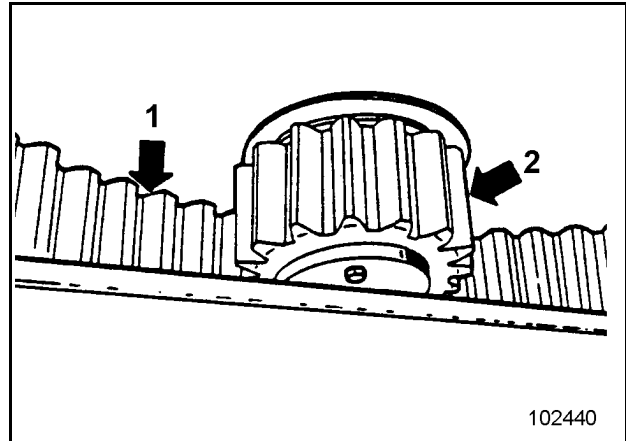
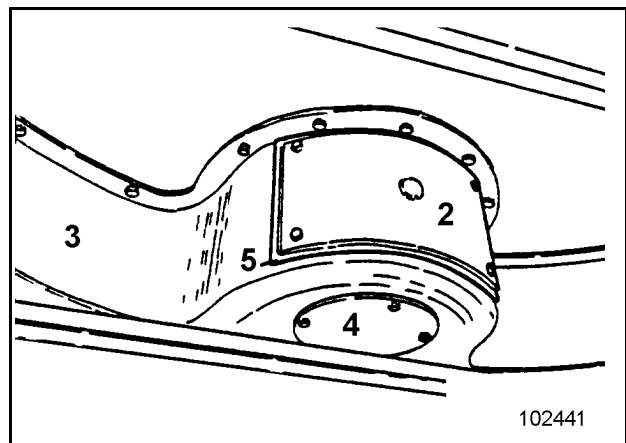

Fig. 3-150:
Fig. 3-151:
The internal gearing (1, Fig. 3-150:) and the pinion (2) are enclosed in a housing (3, Fig. 3-151:). The housing forms a grease-filled trough in which the pinion of the swing mechanism moves.
The housings have a check opening which is closed with a cover (2, Fig. 3-151:). For checking, the cover must be removed.